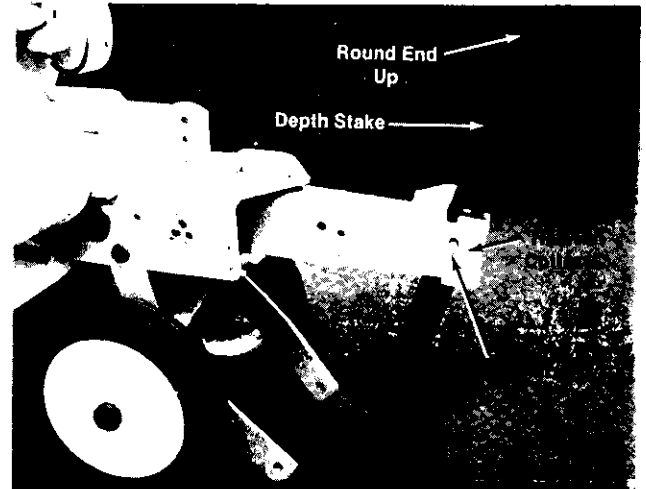

FIGURE 17.
Slide the depth stake into the tail piece (round end up) and secure with clevis pin (H) and hair pin cotter (C). See figure 17.
1. Adjust depth bar by removing clevis pin and hair pin cotter, changing bar position, then replacing hair pin cotter and clevis pin. See figure 17.
2. Adjust wheel yoke by removing clevis pin and hair pin cotter, changing wheel yoke height, and replacing clevis pin. See figure 17.